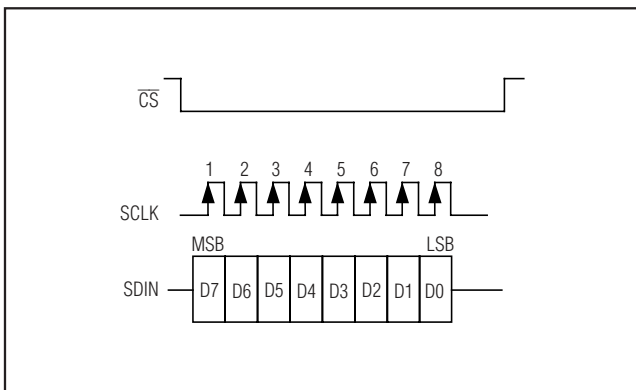

Figure 21. Write Operation in Auto-Increment Mode
- 1) Auto-increment write mode used for display memory access is a single 8-bit operation (Figure 21). When performing the auto-increment write for the display memory, the 8-bit address is internally generated, and only 8-bit data is required at the serial interface.